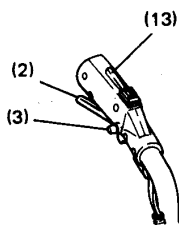

Fig. 16B
- With the safety lever (13) pressed (if so equipped), pull throttle trigger and push lock button(3), then slowly release the throttle trigger first, then the safety lever. This will lock the throttle in starting position. (Fig. 16B)